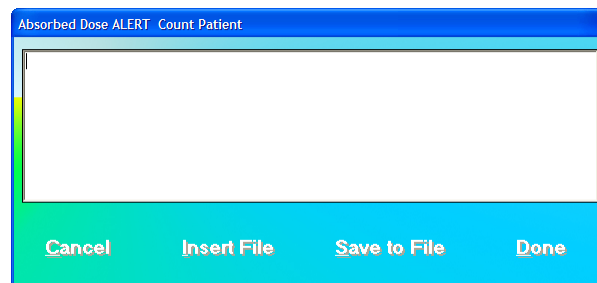

Figure 9-27
- To add comments to the report, click the **Comment** button. The Comment window will appear as shown in Figure 9-27. Refer to CHAPTER 3: GENERAL OPERATING INSTRUCTIONS; SECTION: ADD COMMENTS SCREEN.